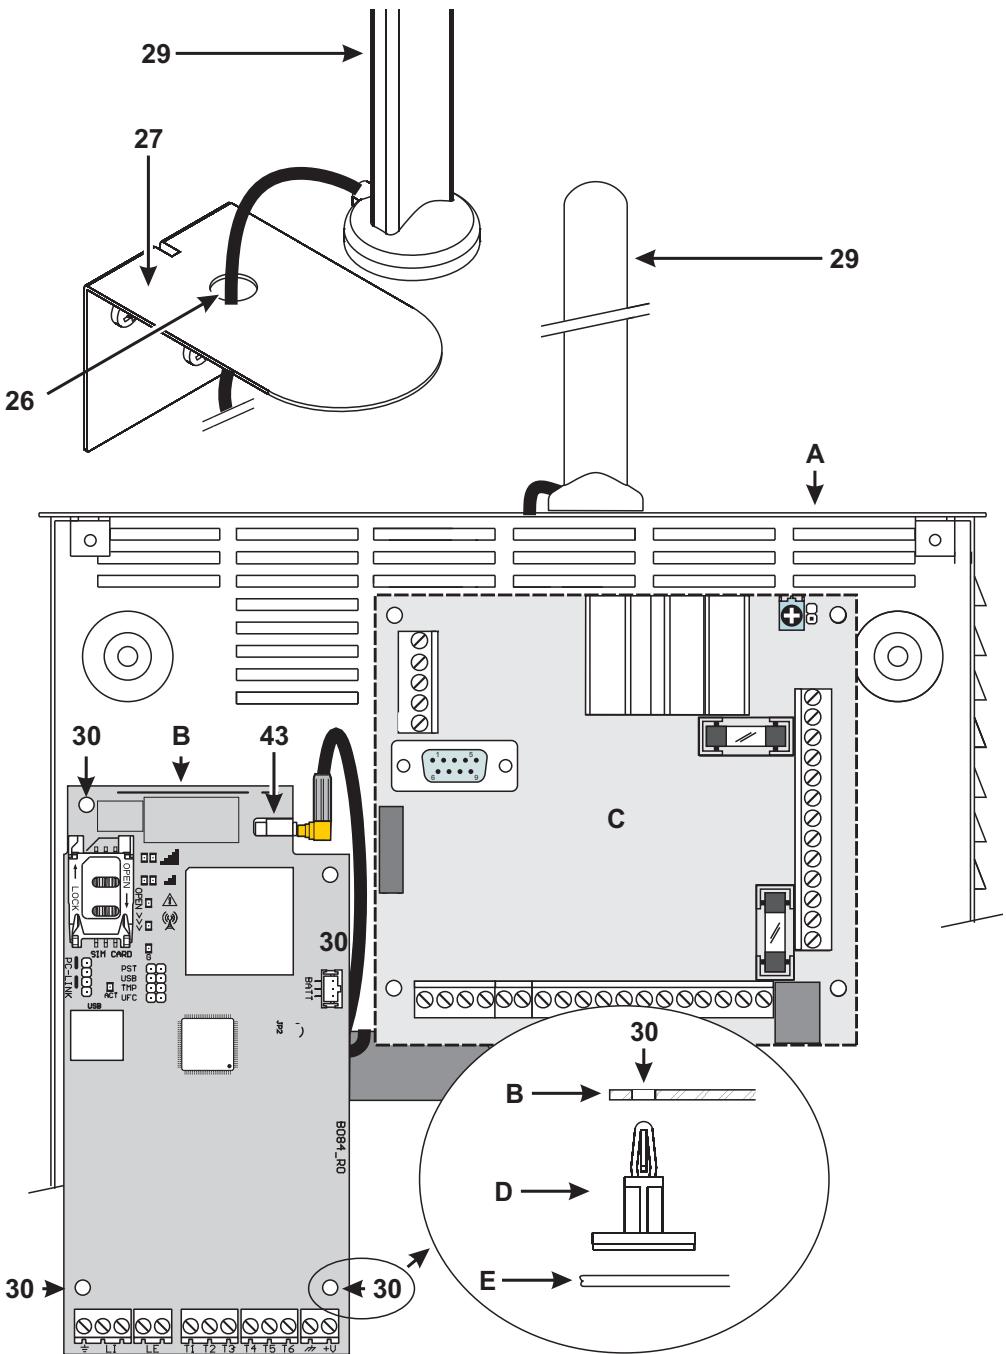

Figure 3 – Installing the kit communicator: *A)* metal housing; *B)* communicator board; *C)* panel motherboard; *D)* adhesive plastic mount; *E)* base of metal housing.
To install the kit version, proceed as described below and in figure 3.
3. Mount the 4 provided adhesive plastic mounts into holes **30** of the communicator, as shown in figure 3.